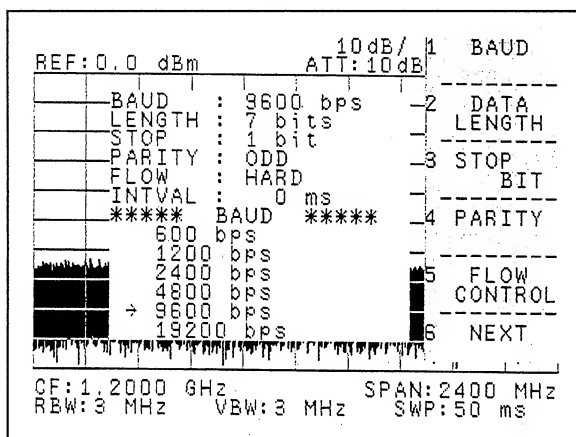

Figure 5-32 Window screen for communication port setting
- ① Window screen for setting communication ports. Press **SHIFT** **CONFIG** **6** **NEXT** and the window screen shown in Figure 5-32 will appear. The upper portion of the window screen shows the current settings, and the lower portion is used to change each parameter. Use the marker (→) to change them.
- ② Transmission speed setting (baud rate) Press **1** **BAUD** on the display softmenu shown in Figure 5-32. Each time this softkey is pressed, the "→" will move, enabling the transmission speed to be select.